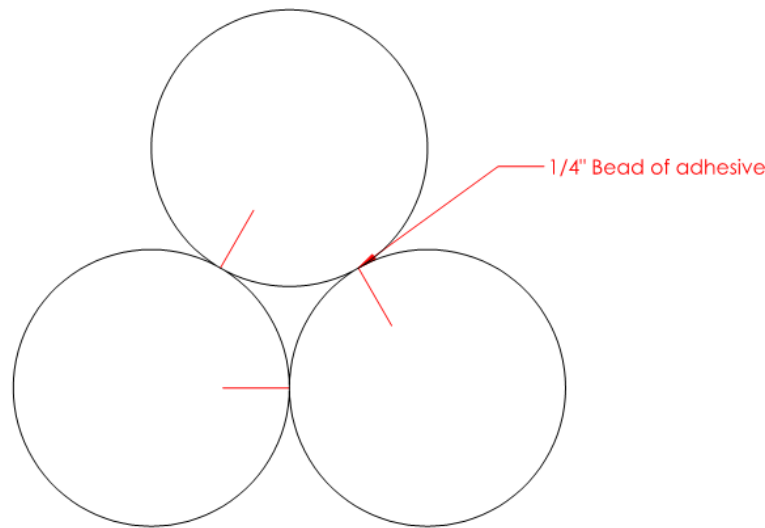

Figure 2: 3 round baffle pattern with adhesive lines.
- 1) Position 3 round hanging baffles against one another and at the top of the baffle, with a marker make a small mark atop the baffle where the baffles meet. See figure 2.
- 7) Evenly dispersed, directly in the center of each baffle insert 2 corkscrews for clusters of 2-4 baffles, 3 corkscrews for 5-7 baffles, 4 corkscrews for 8-10 baffles, 5 corkscrews for 11-13 baffles, etc. etc. See figures 2 – 6.